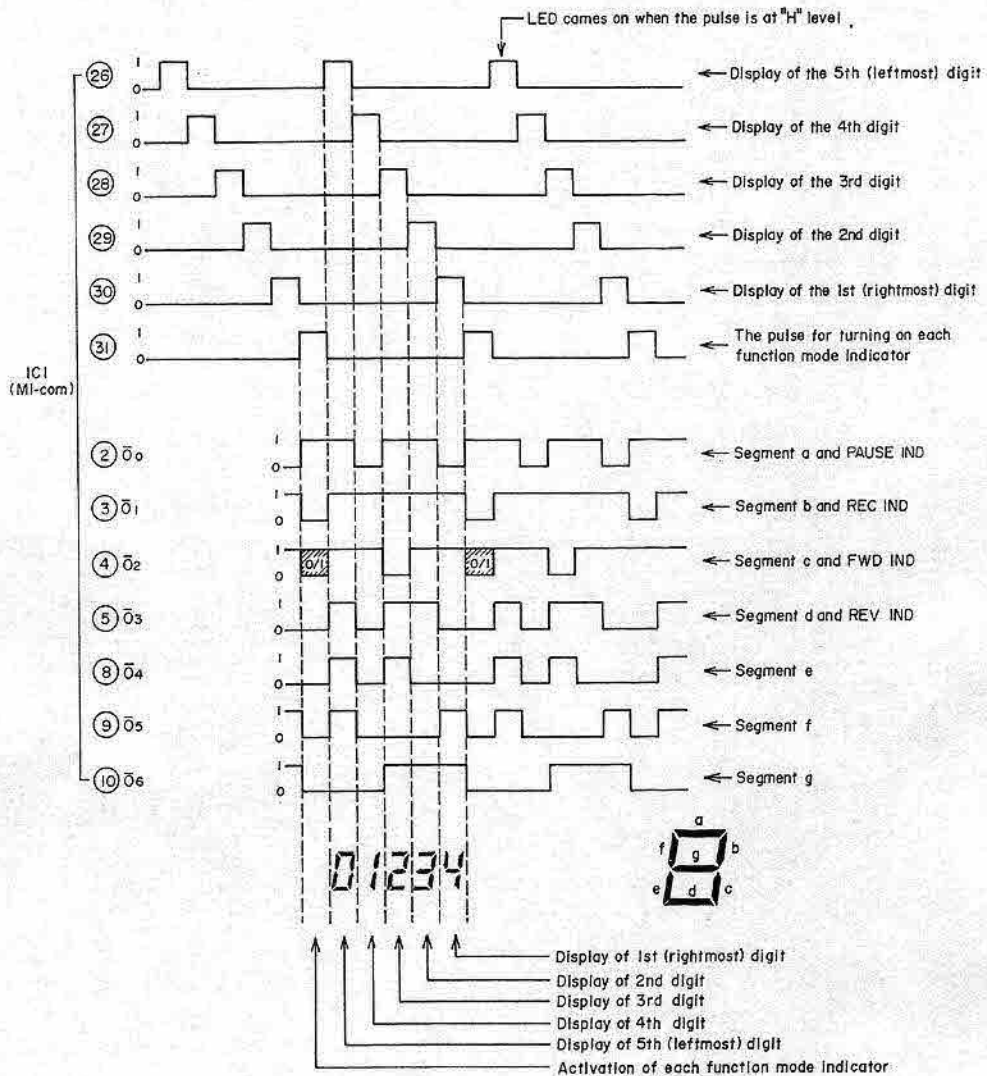

Fig. 23
Here we will explain about the situation in Fig. 23 (FWD PLAY/PAUSE) as one example. Hereinafter FWD PLAY is just written as PLAY. Under PLAY/PAUSE, PAUSE of the function mode indicator is always lit and PLAY is flashing. Firstly, refer to the vertical row of the function mode indicators of O0 - O3 in Fig. 23. You will note that PAUSE IND has "H" level, PLAY IND has "L/H" flashing and others have "L" level.
Fig. 23 shows the timing chart. By means of the waveforms of IC (26) - (30) coming from the microcomputer, the lighting position of LED of each digit is moved in sequence. Take the example of the first digit.
tion of $\bar{0}0 - \bar{0}6$ of the first digit indication in Fig. 23, b, c, f, and g segments are lit and a, d and e segments are dark. In this condition, the indicator indicates 4. Similarly if we look at the 2nd - 5th digits, 01234 is indicated in the condition of Fig. 23.